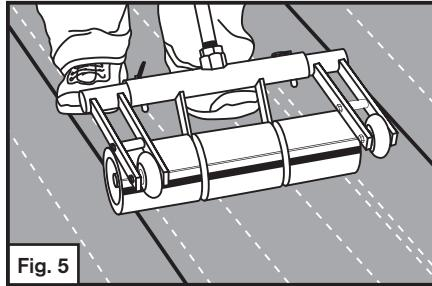

Fig. 5
**Step 10.** As each course is completed, roll the course with an 80 pound linoleum roller. Start at the center and work outward to remove trapped air. See Fig. 5